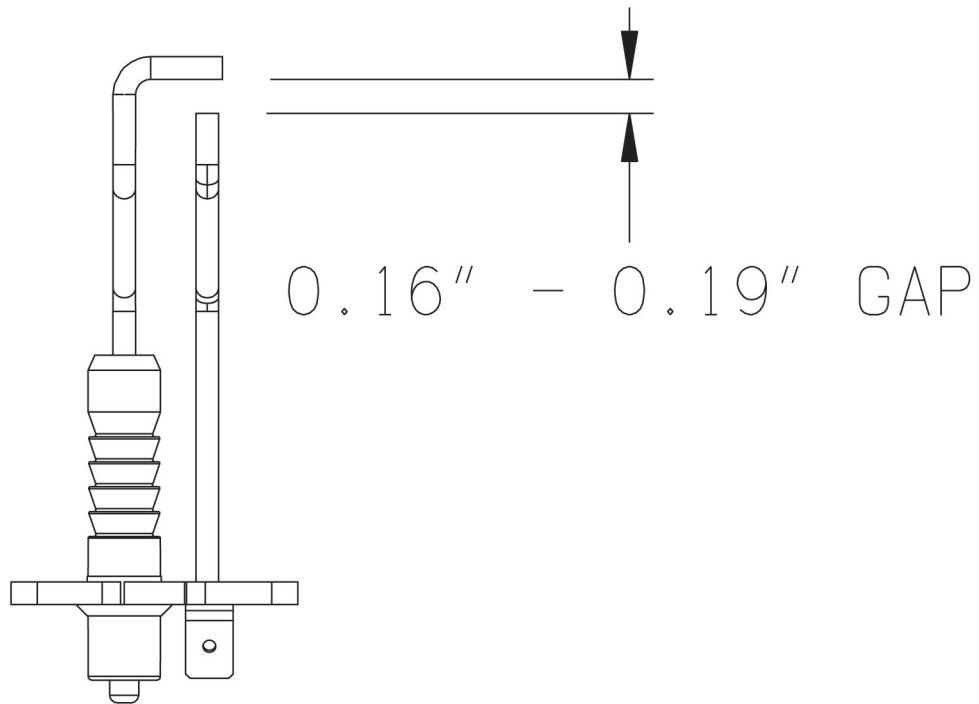

Figure 13.3: Ignition Electrode Gap
- n. **Inspect the ignition electrode and flame rod** for deposits. Clean any found with steel wool. Do not use sand paper or Emory cloth for this cleaning. Inspect the ceramic portion of both of these parts for cracks and replace if any are found. Verify that the ignition electrode gap is within the range shown in Figure 13.3.